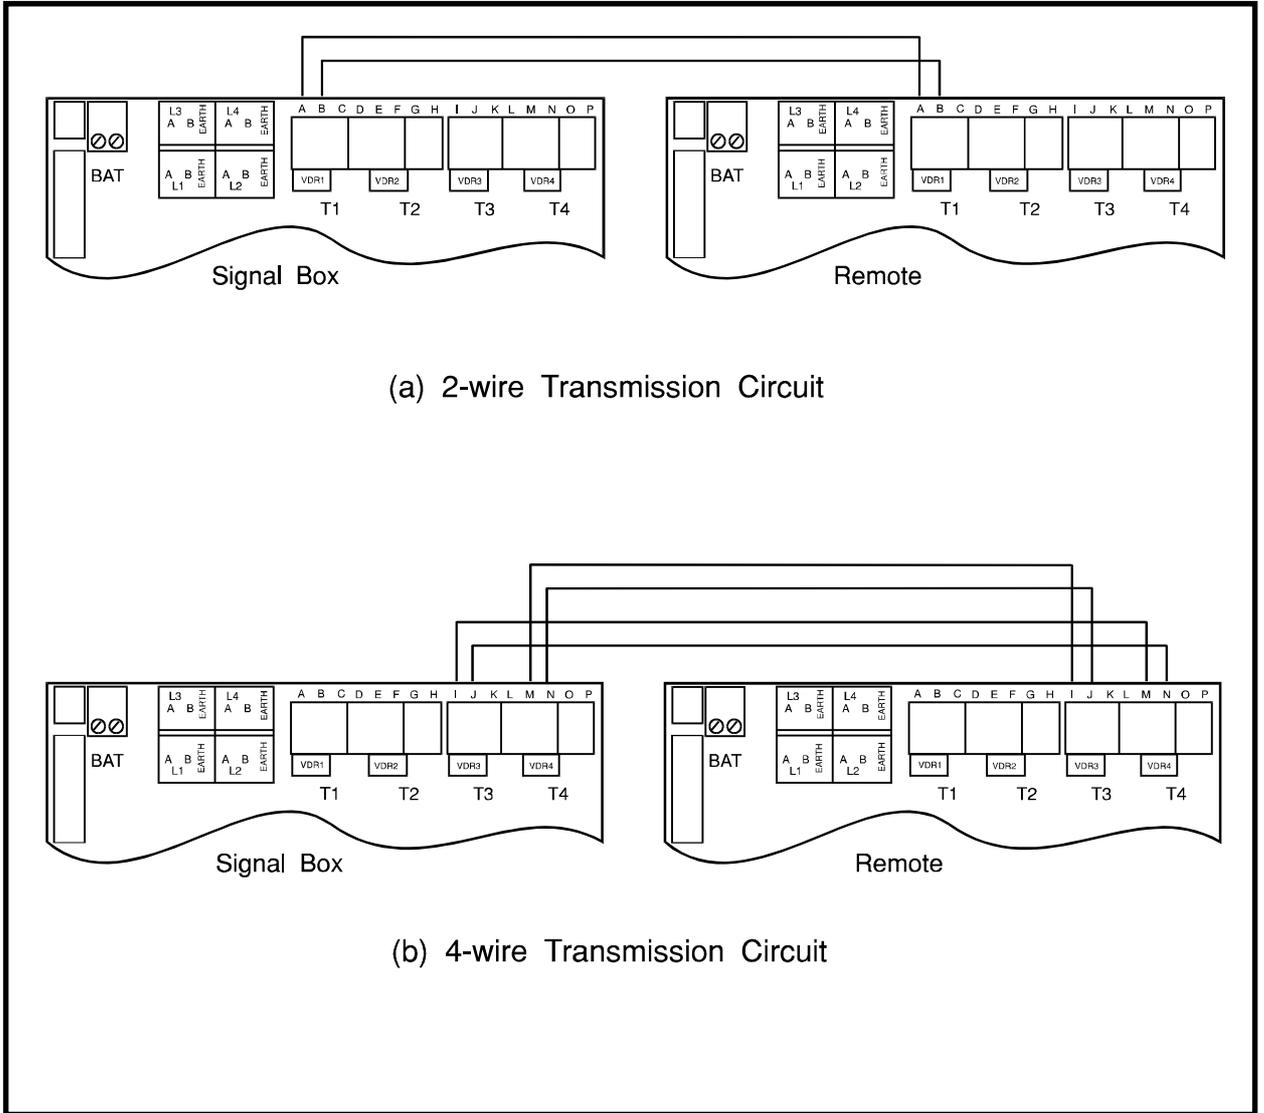

Fig 3.7 Transmission Circuit Wiring without Block Switching
3.2.10 In order to assist with the system wiring, further details are provided in Figs 3.7 to 3.10.